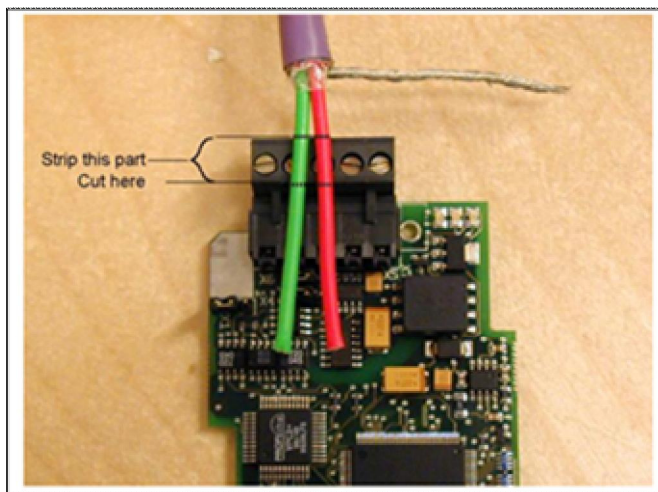
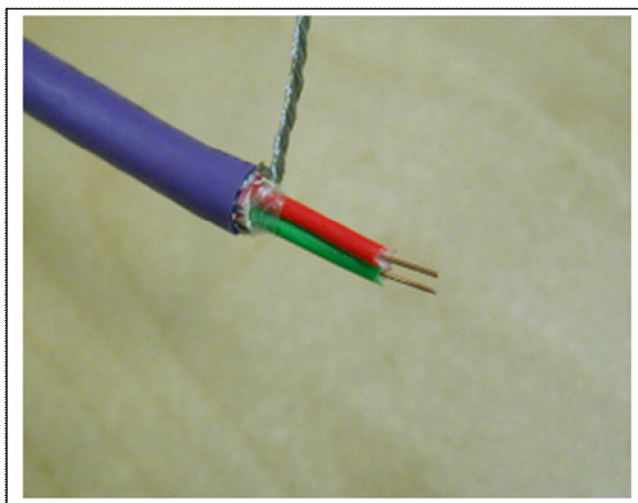

Figure 4-6.
Figure 4-7.
2. Leave no more than 1 cm of the red and green data cable outside the terminal block and strip the data cables at about 0.5 cm to fit in the terminals. See *Figure 4-6* and *Figure 4-7*.